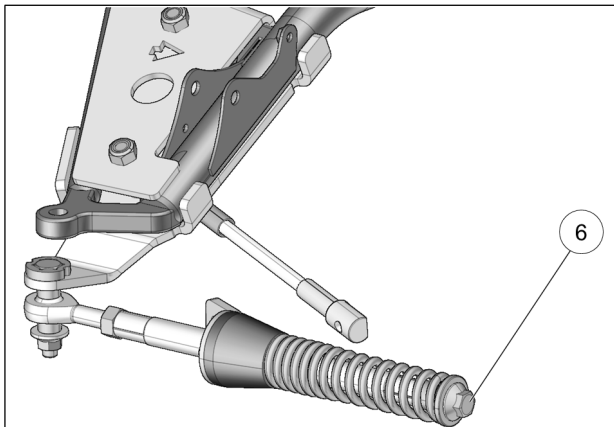

Fig. 22
15. Verify that spring assembly bolt (6) is tightened to the recommended torque specification: 75 N•m [55 lb•ft]. Refer to Fig. 22